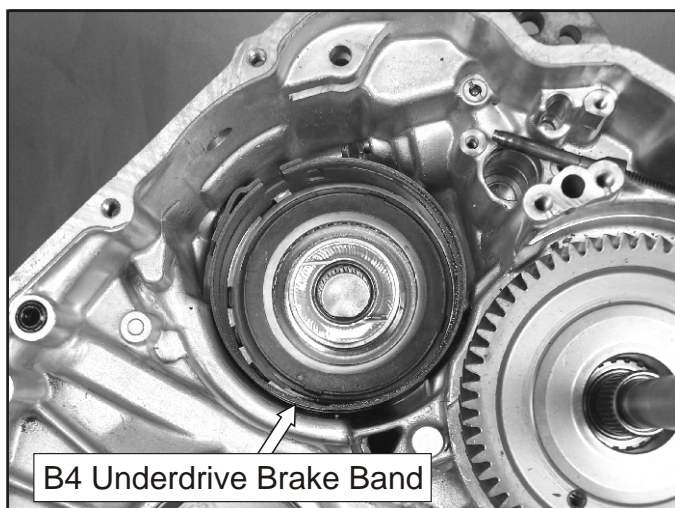

Figure 67
16. Grasp the B4 Underdrive Brake Band, in the area of the arrow as shown in Figure 67, and pull it forward to remove it from the case.